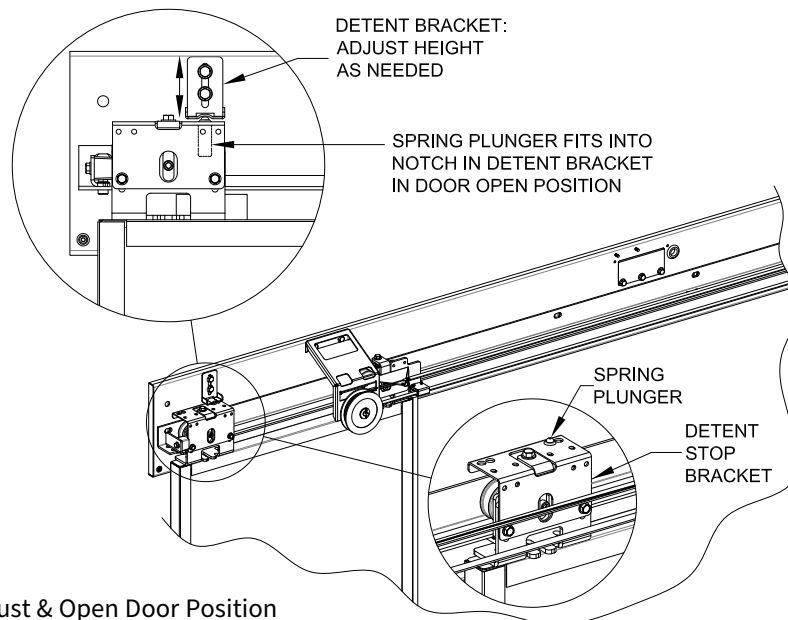

Figure 12: Detent Adjust & Open Door Position
1. A Spring Plunger is installed in the Detent/Stop bracket on the trail edge Trolley. This plunger fits into the notch in the Detent bracket, mounted on the header, and locks the door in the open position (see Fig. 12).